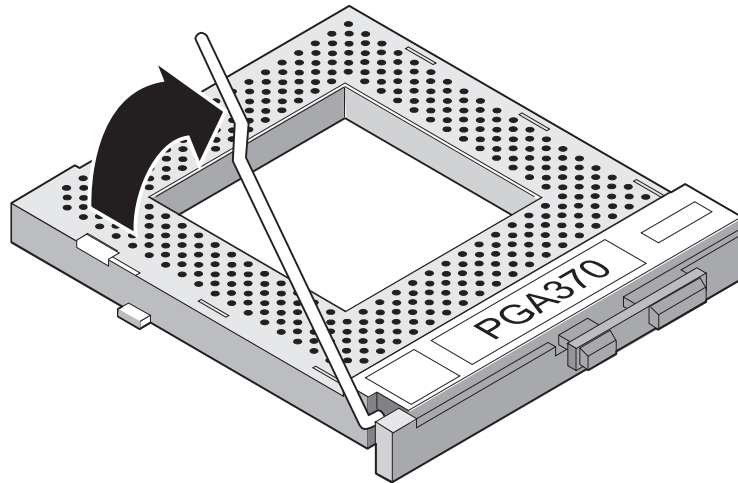

Figure 3. Raising the Socket Handle
2. Raise the socket handle completely (see Figure 3).